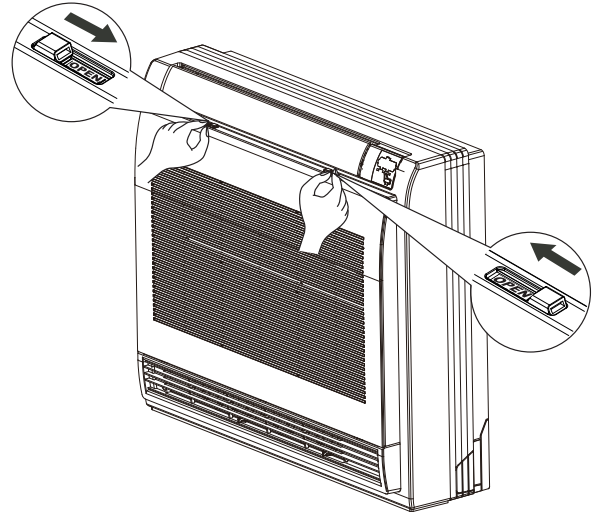

Fig. 11 — Open the front panel
1. Open the front panel by sliding the two stoppers towards the middle of the indoor unit (see Fig. 11).